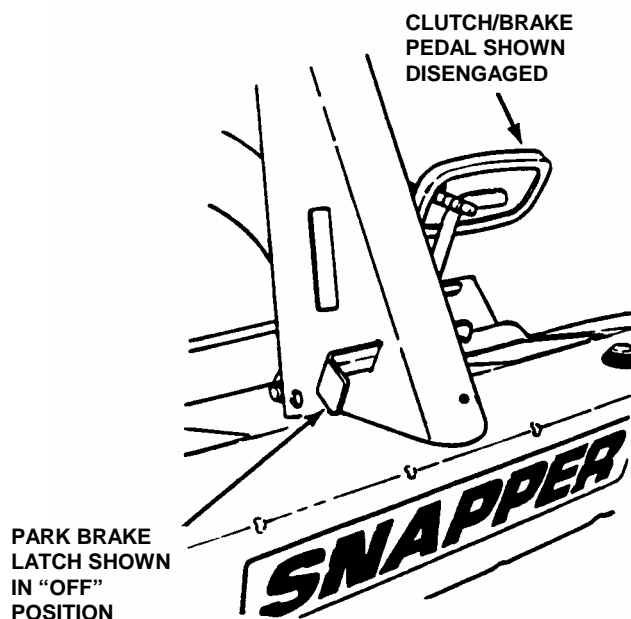

FIGURE 2.17
2. Release park brake by pushing down on the clutch/brake pedal to release park brake latch. See Figure 2.17.